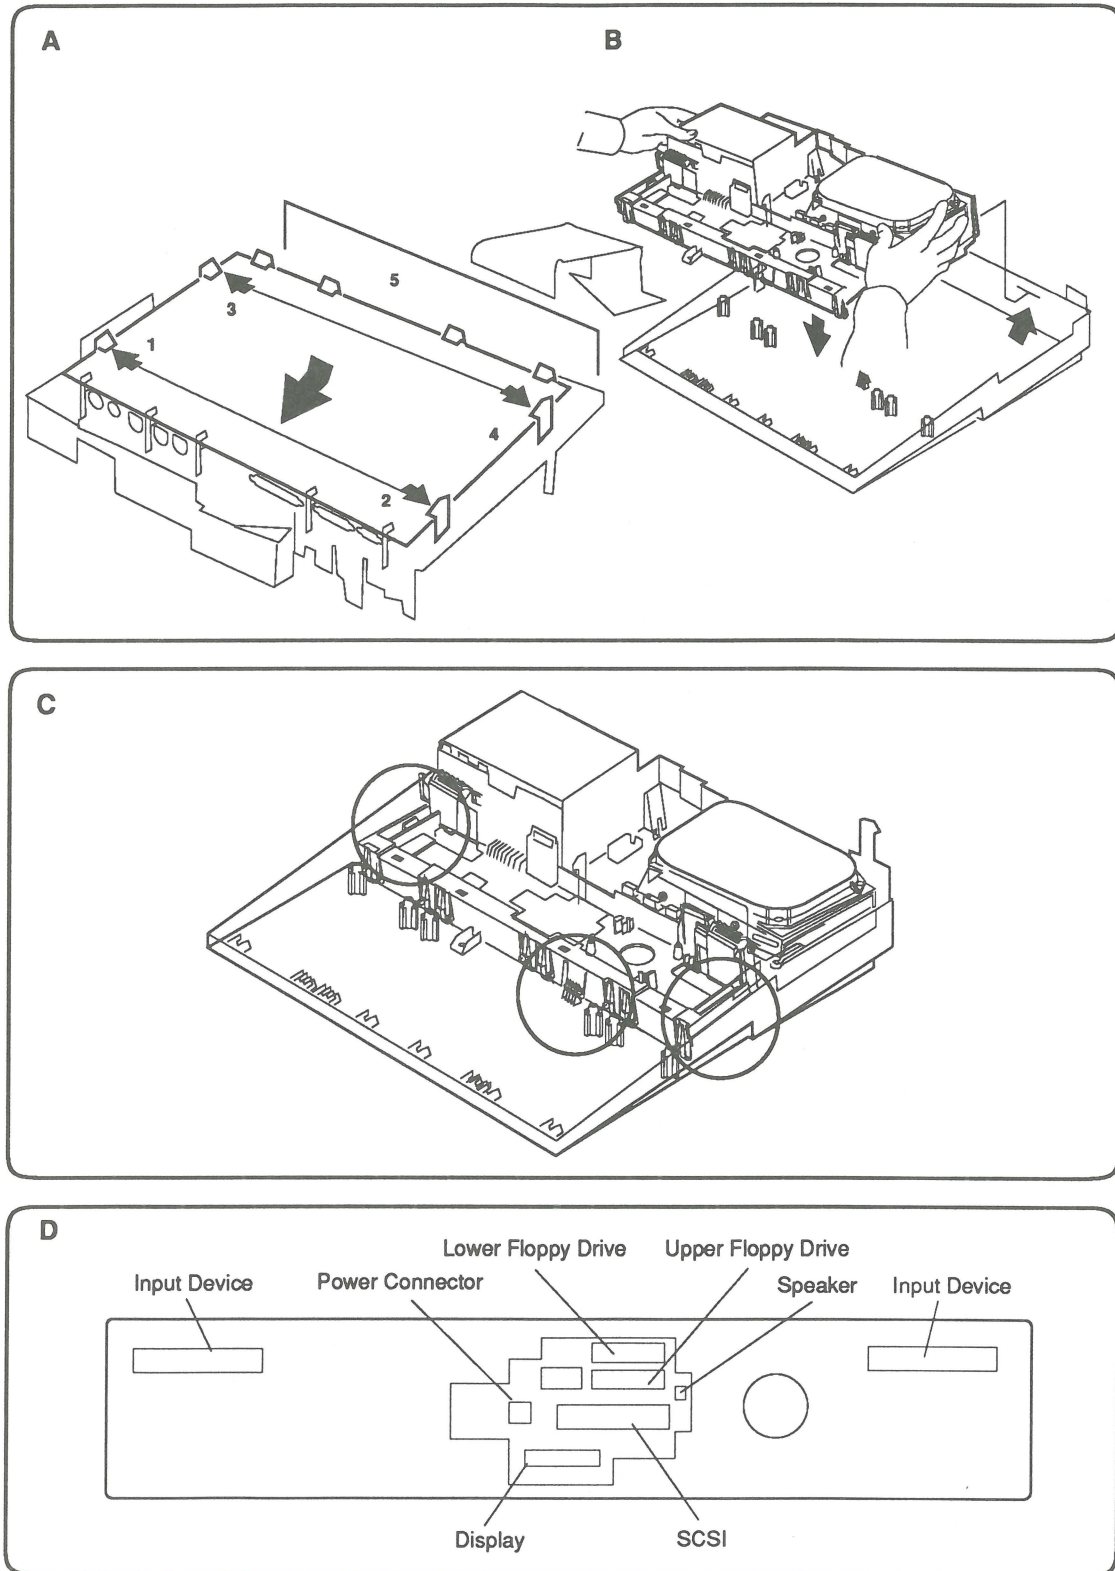

FIGURE 23
1. **Figure 23-A.** Holding the logic board at an angle, place the rear edge of the logic board into the plastic clips at the back of the subframe.
2. **Figure 23-A.** Lower the front of the logic board into the subframe and gently but firmly press the board into each plastic clip in the order shown in the illustration.
3. **Figure 23-B.** Place the subframe in position in the bottom case.
4. **Figure 23-C.** Press down on the subframe as shown in the illustration until the three plastic clips snap in place.
5. **Figure 23-D.** Using the illustration as a guide, connect the following cables to the logic board: